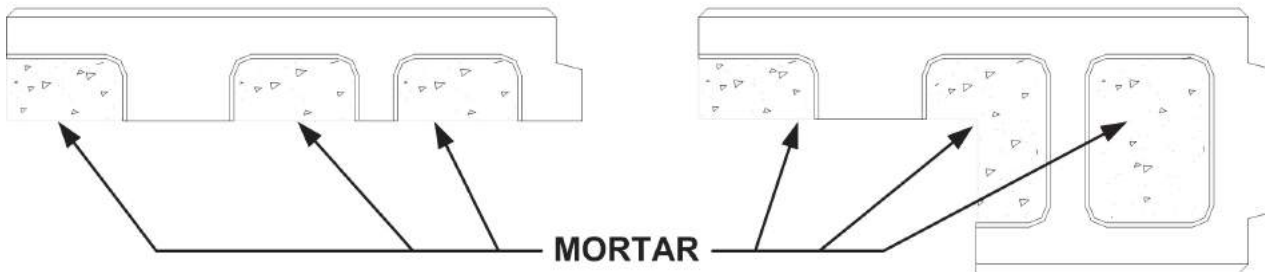

Fig. 5.14b
11. Lay the first course as described earlier in this Guide. Before laying and leveling the modified units, fill their cells with mortar (*Fig. 5.14b*). The mortar must be stiff enough to maintain itself in the partial cells. During construction, mortar must not be allowed to fall into either the head or bed joints.